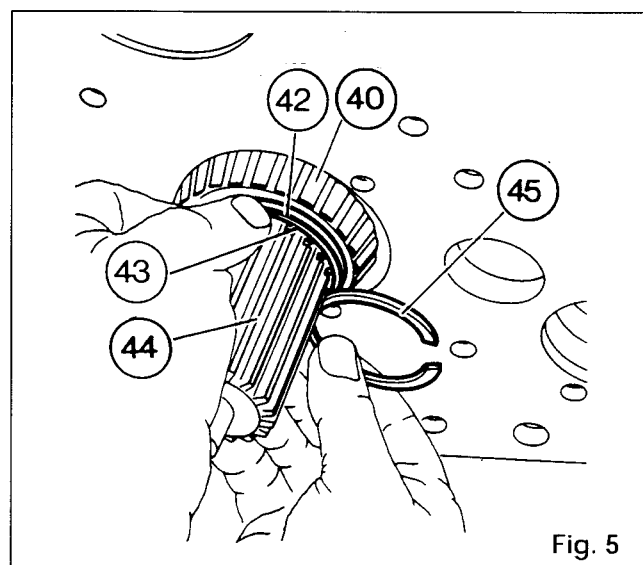

Fig. 5
21. Slide the cones (39) and (40) and hold them fully home against the shoulder of shaft (44) by pressing on them by hand. Fill the gap Y between the rear of the cone (40) and the groove for circlip (45) with shims (42) and packing shim (43). Choose a new circlip that provides a slightly tight fit in the groove (Fig. 5).
**Note : Fit the packing shim (43) against the circlip (45).**
22. Fit the cup (48) and the locking ring (46).